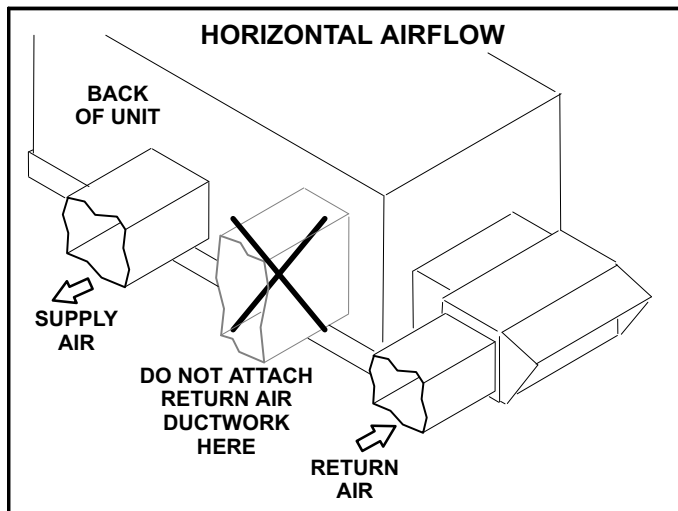

FIGURE 9
- 3- Make sure the horizontal return air cover on the back side of the unit remains in place. The opening is used when an economizer is not installed. See figure 9.